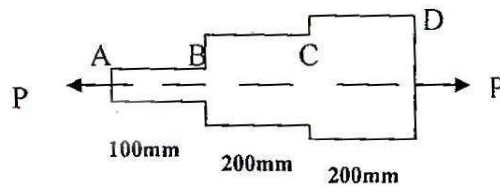

Fig. 1
1. (a) A circular bar of 500 mm length has cross-sectional area as shown in Fig. 1. Determine the maximum axial pull 'P' for